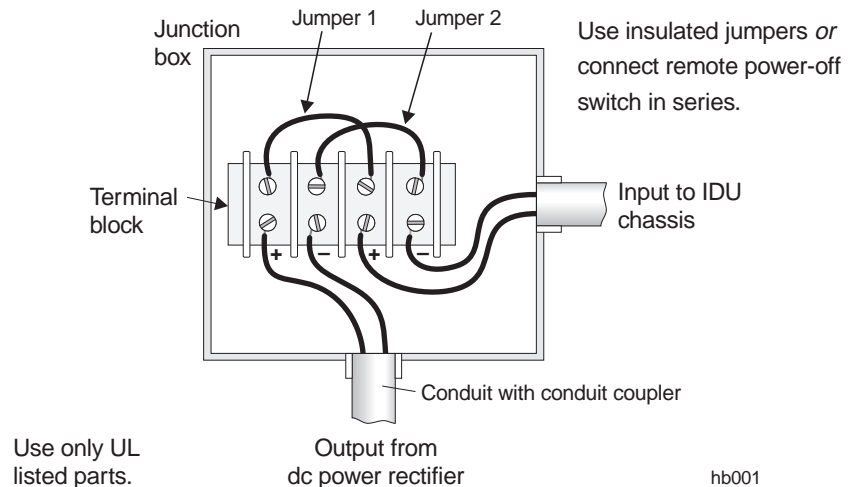

Figure 6-14 Remote power-off circuit
2. Install a UL-approved terminal block inside a UL-approved electrical junction box as shown in figure 6-14.
8. Open the switch again. Confirm that the chassis is no longer powered. If the switch does not operate correctly, turn the rectifier breaker off and make sure the circuit is connected as shown in figure 6-14.